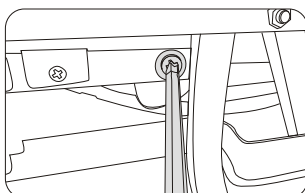

Figure 9
- Unscrew the screw on the back-end of armrest (note: zip the backrest kneading cloth open completely, you may find it). (figure 9)